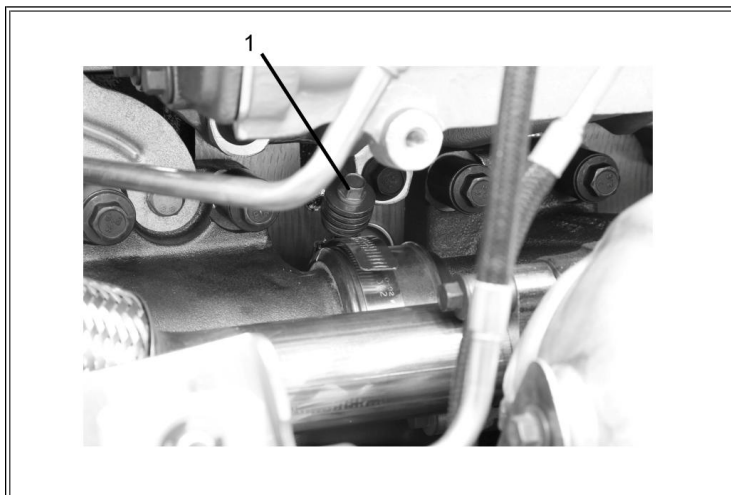

Figure 12: Rear Exhaust Manifold Ring Seal
Ring seal clamp alignment must match the clamp alignment in **Figure 12** to prevent problems when installing the outboard EGR inlet tube.
26. Install #1 ring seal clamp (**Figure 12**, Item 1) center of shield.